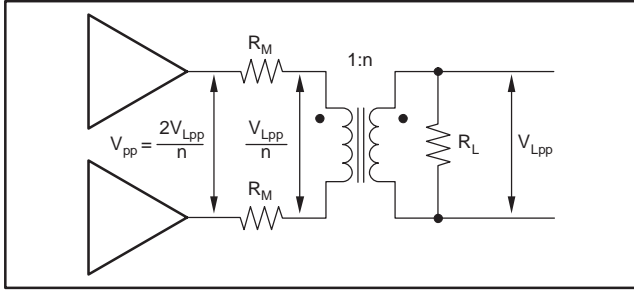
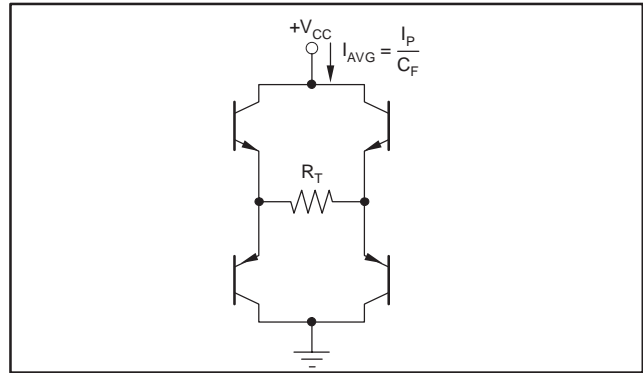

Figure 11. Driver Peak Output Voltage
Figure 13. Output Stage Power Model
With V_{LPP} as defined in Equation 8, and R_M as defined in Equation 4 and shown in Figure 11.
The total internal power dissipation for the OPA2614 in an xDSL line driver application will be the sum of the quiescent power and the output stage power. The OPA2614 holds a relatively constant quiescent current versus supply voltage—giving a power contribution that is simply the quiescent current times the supply voltage used (the supply voltage will be greater than the solution given in Equation 12). The total output stage power may be computed with reference to Figure 13.
The two output stages used to drive the load of Figure 11 can be seen as an H-Bridge in Figure 13. The average current drawn from the supply into this H-Bridge and load will be the peak current in the load given by Equation 10 divided by the crest factor (CF) for the xDSL modulation. This total power from the supply is then reduced by the power in R_T to leave the power dissipated internal to the drivers in the four output stage transistors. That power is simply the target line power used in Equation 5 plus the power lost in the matching elements (R_M). In the examples here, a perfect match is targeted, giving the same power in the matching elements as in the load. The output stage power is then set by Equation 13.